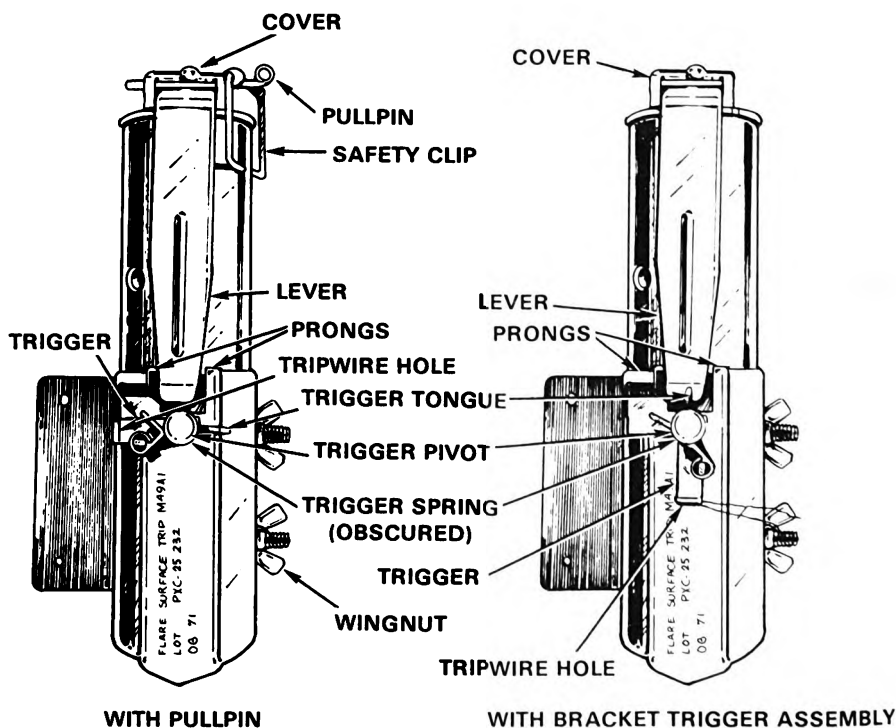

Figure 1.
e. Carefully slide flare downward into its bracket until bottom edge of lever is no more than 1/16 inch above — but not past — the bracket. In this position, note that the flare base is approximately 1/2 inch below the upper carriage bolt. The bottom end of lever is approximately 3/8 inch below the bracket prongs and is centered between these prongs (figure 1).